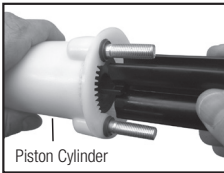

Figure 5
7) Remove check valve cartridge assembly from bottom of piston cylinder utilizing pump handle clip (clip has flat blade incorporated into end). Place flat blade into slot in bottom of cartridge and unscrew (Figure 5 and 6).